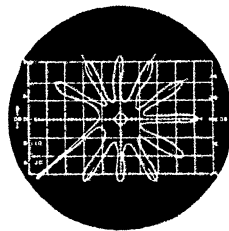

Fig. 3-14 Vector pattern display.
4. Set the tint or hue control in the receiver to line up the lobes with the 30° markings on the graticule, Fig. 3-14.